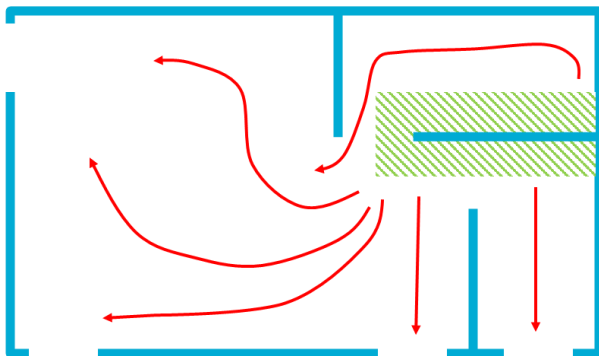

Figure 1: Strategic starting point
- **Plan, layout, and install from strategic starting spot;** please see Figure 1 as an example. Since the installer cannot put weight on tiles and must install from the unlaidd side, the adhesive applicator must apply at a 2-tile width for the installer to reach far enough to place the tile. With a strategic layout, the “glue spreader person” can continuously keep moving from spot-to-spot while the “tile layer person” installs the tile. The “tile layer person” waits about 10 minutes for the adhesive to “firm-up” and “level-out” to then lay tile, again moving from spot-to-spot. Near edges, the tile layer must first cut and dry lay fit the tile before adhesive is applied. The installation must finish at an exit door.